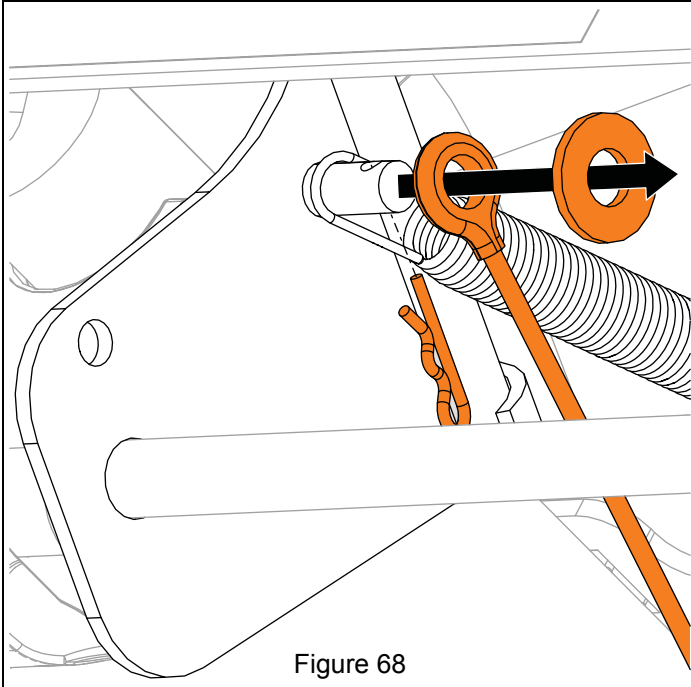

Figure 68
4. Under dash panel, remove hardware retaining upper traction clutch cable to clutch lever and remove cable. See Figure 68.
7. Reinstall upper traction clutch cable to traction clutch lever. Secure with one flat steel washer and hairpin. See Figure 68.